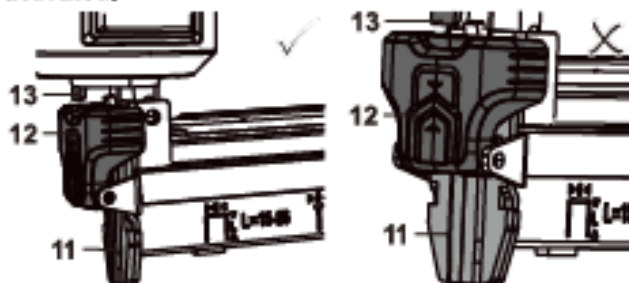

Fig. 11
7. Ensure that the stopper (13) is not obstructed by the clamping knob (12) when pressing the safety yoke (11) (Fig. 11). Otherwise the built-in switch can't be activated.